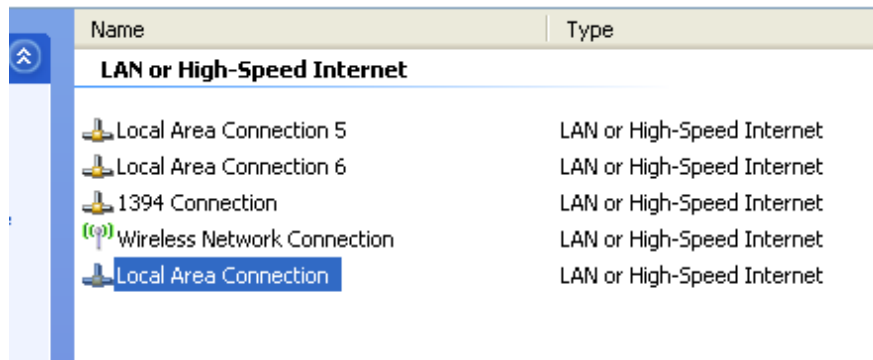
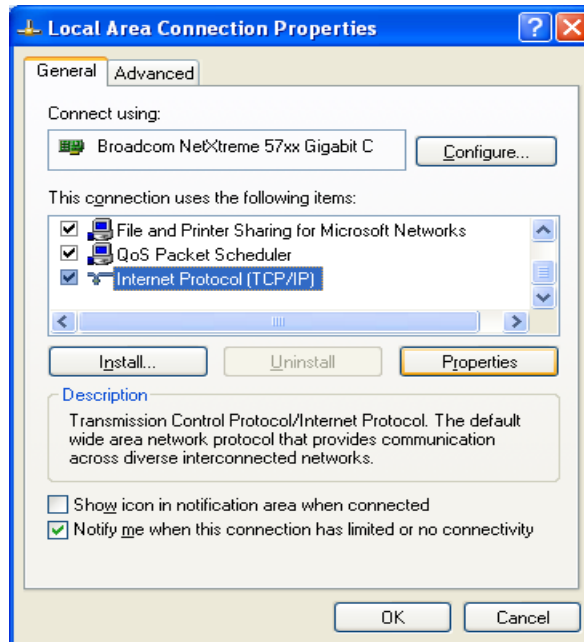

Figure 4
Figure 5
3. Select the TCP/IP as in Figure 4 and click “Properties”. Check the radio button “Use the following IP address” and enter “192.1.2.6” as your new IP address (Figure 5). The DNS server address is not necessary. Then press the OK button twice to close all open windows.